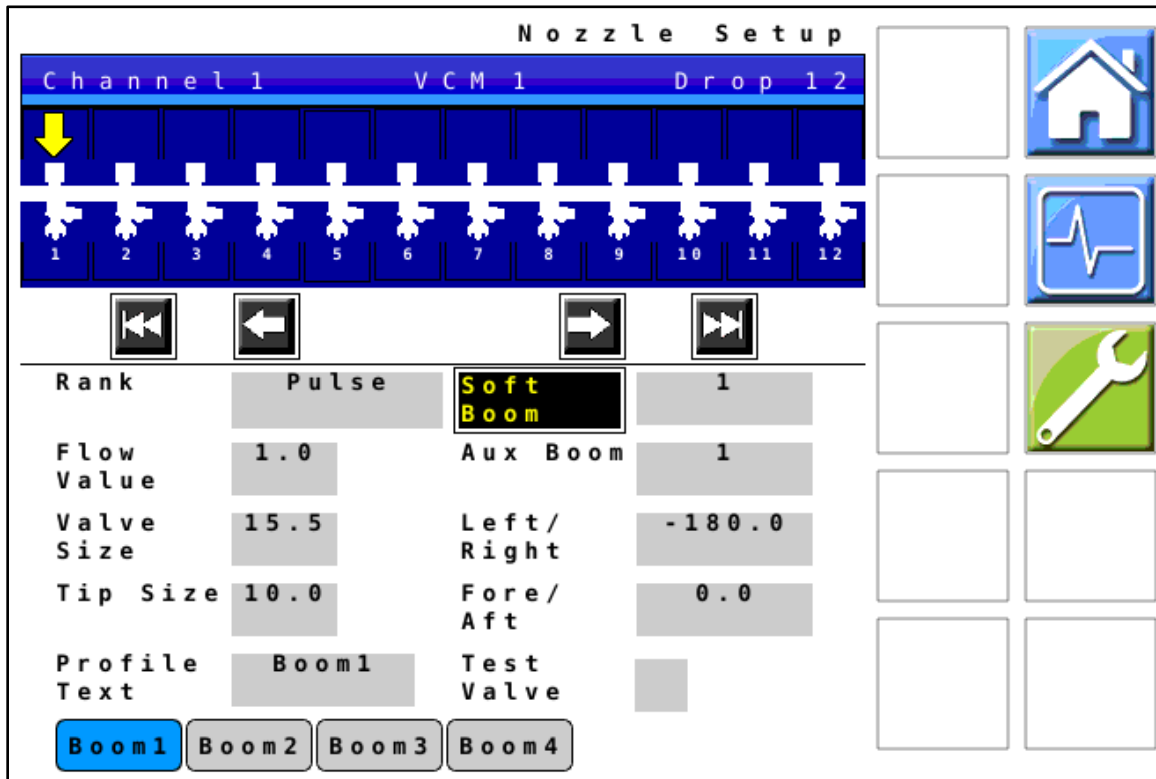

**Figure 9 — Nozzle Bounds**
16. *Figure 9:* The information in the fields on this screen is machine specific, verify that it is correct for your machine, and change any settings if necessary.